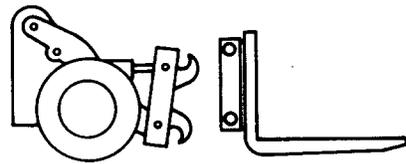

FIGURE 5—
- 4.1.5 Forks for Quick Coupler Attachment (see Figure 5)